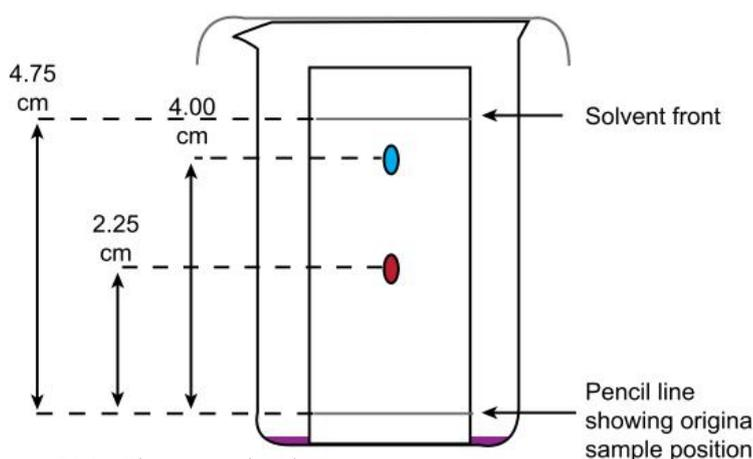

Figure 20.1: Glucose molecule
- A simple TLC experiment is to be set up using a plate and a mixture of dyes to be tested. The final result is shown In Figure 20.1.